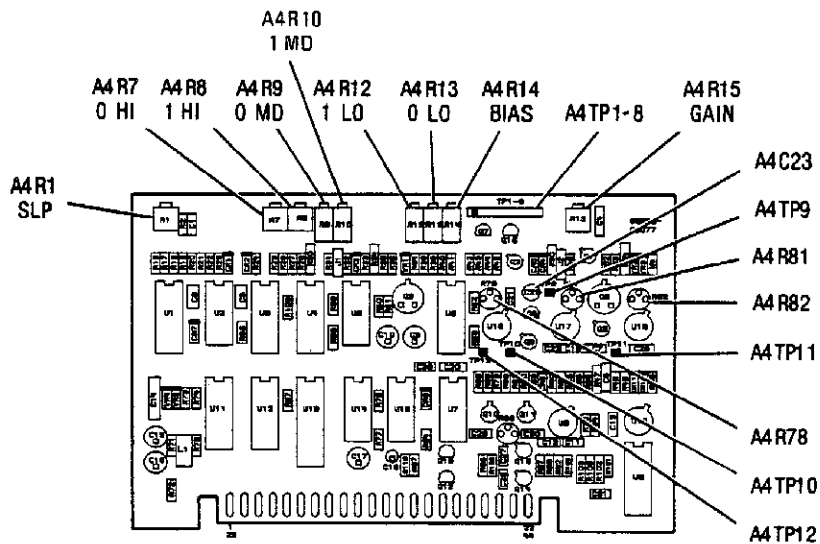

Figure 5-36. ALC Adjustment Locations
2. Float the ground on the Digital Voltmeter and measure the voltage between A4TP9 and A4TP10. Refer to Figure 5-36 for adjustment locations. Adjust A4R81 (OFS 1) for 0.000 ± 0.001 Vdc.